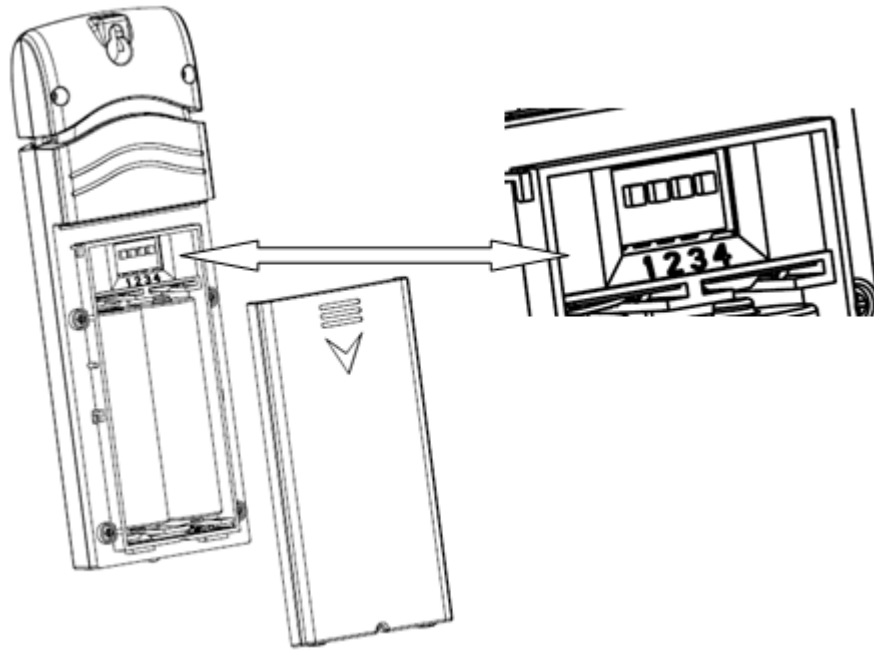

Figure 1
1. Remove the battery door on the back of the transmitter(s) by sliding down the battery door, as shown in Figure 1 .